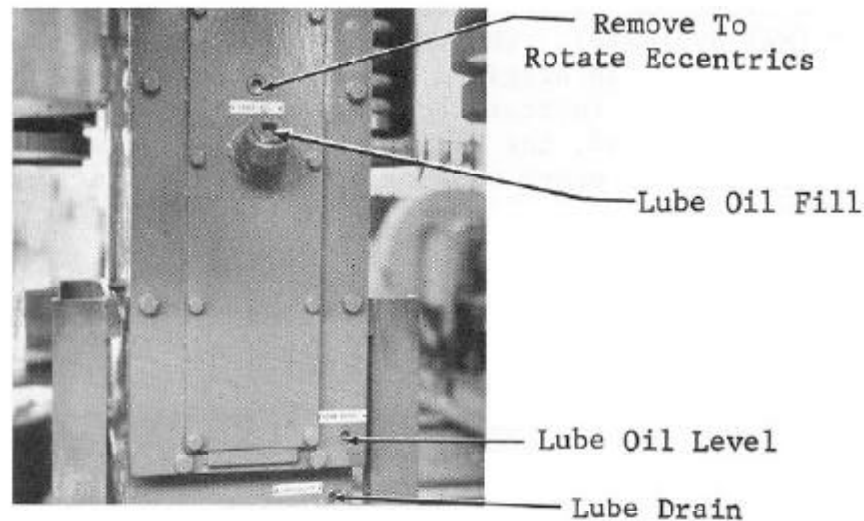

FIG. 6
- C. Check the vibrator lube oil level. See Fig. 6, Page 15.
A check on the lube oil level is made by removing the lower pipe plug on the bearing end cover opposite motor housing. The oil level should be to the bottom of this pipe plug hole when the vibrator is level. Ref. Fig. 6.